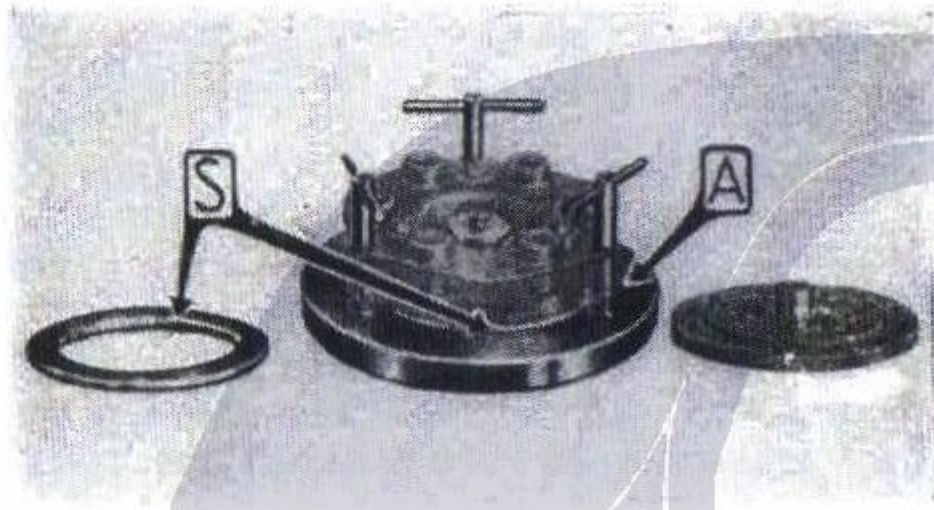

Fig. 54. - Tool A. 10112 for dismantling assembling and adjusting the clutch
The assembling and adjustment of the clutch may be rendered much easier if the purposely designed tool A. 10112 is used as shown in the Fig. 54. This tool is provided with two distance rings (S) corresponding to the respective positions of the levers when the driven plate has either new or worn linings.